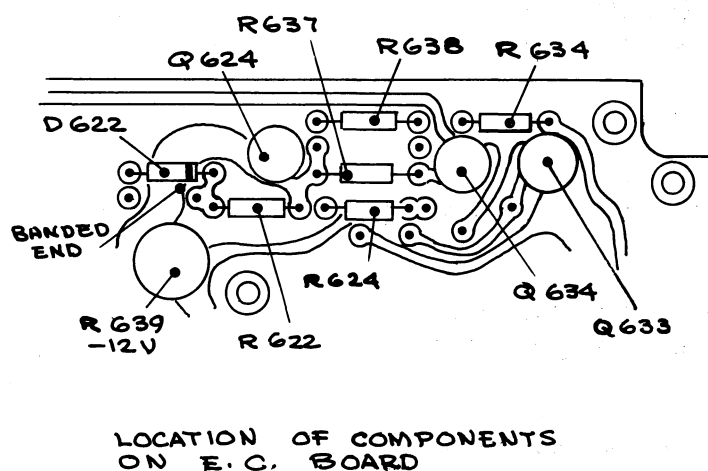

Fig. 1
- 3. Refer to Fig. 1 and replace the following parts with the new parts from the kit: